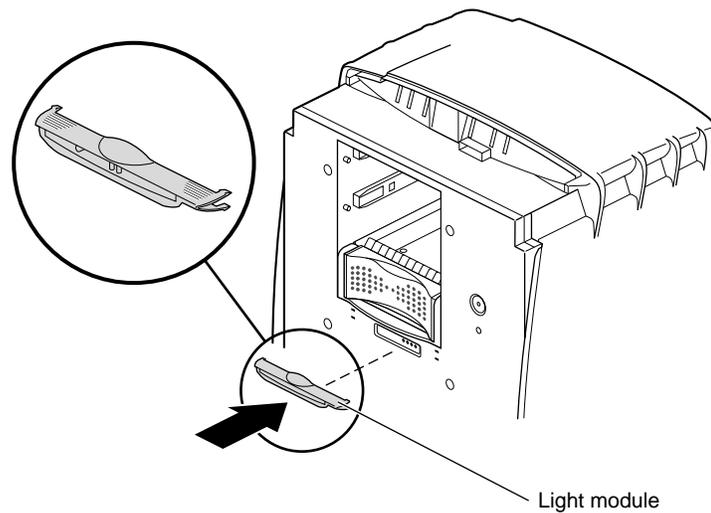

Figure 7-21 Inserting the Light Module
3. Insert the new light module, as shown in Figure 7-21.